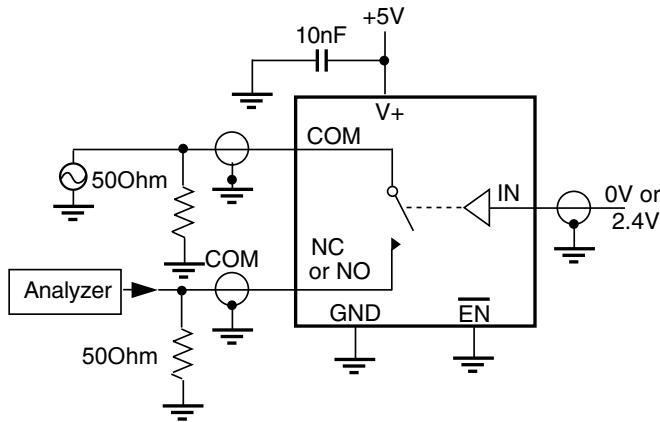

Figure 3. Off Isolation
- Off Isolation = $20 \log_{10} [V_{COM} / (V_{NO} \text{ or } V_{NC})]$. See figure 3.